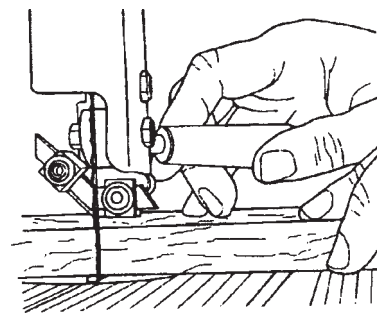

Figure B-1
1. Adjust the height of the upper blade guide so that it's no more than 1/4" above the work, as shown in Fig. B-1.